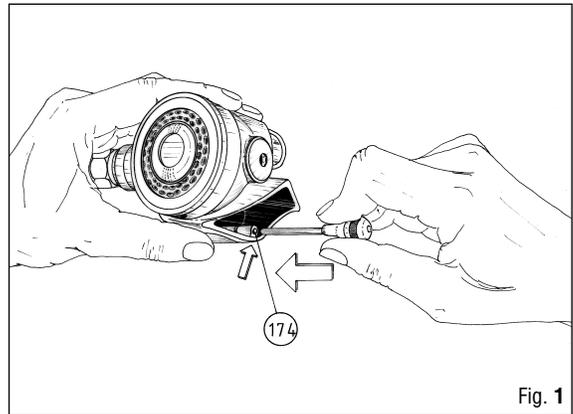

Fig. 1
1. Unscrew the hose (26) from the first stage using the 14-mm open-end wrench (B-18) or the 17-mm open end wrench (B-17).
2. Remove the mouthpiece clamp (43) from the mouthpiece (44).
3. Remove the mouthpiece (44).
4. Remove the fixing pin (174) from the cap (41) of the exhaust tee (Fig. 1).
**NOTE** FOR THE OPERATION DESCRIBED IN STEP 4, IT IS RECOMMENDED TO USE A METAL PRICKER HAVING A MAX DIAMETER OF 2MM (Fig. 1).
5. Remove the inspection cap (41).
6. Shift the hose protector (46) along the hose (26).
7. Using the two 17-mm open-end wrenches (B-17) unscrew the hose (26) from the 2nd stage connector.
8. Remove the O-ring (27) and the O-ring (19) from the hose (26).
9. Unscrew the case assembly connector (28) using a 17-mm open-end wrench (B-17).
10. Remove the O-Ring (71) from the case assembly connector (28).
11. Unscrew the seat connector (21) from the case assembly connector (28) using a 5-mm hex wrench (B-4).
12. Remove the O-ring (27) from the seat connector (21).